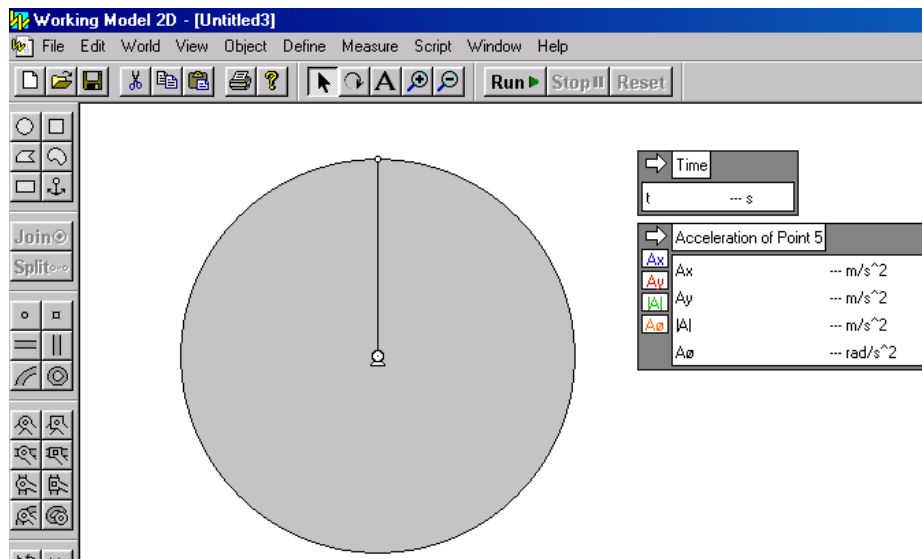

Figure 4
12. Select the point positioned on the top of the wheel and then select the Acceleration from Measure menu. Follow the same procedure and select Time from Measure menu. Re-position the graphs and change the display option of the graphs to numerical values as in Figure 4.